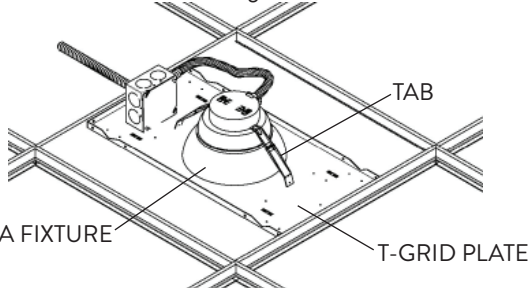

FIG. 14
- 4 Press the FDLA Fixture up against the ceiling and release the Tabs to secure the Fixture to the Plate (Fig. 14).